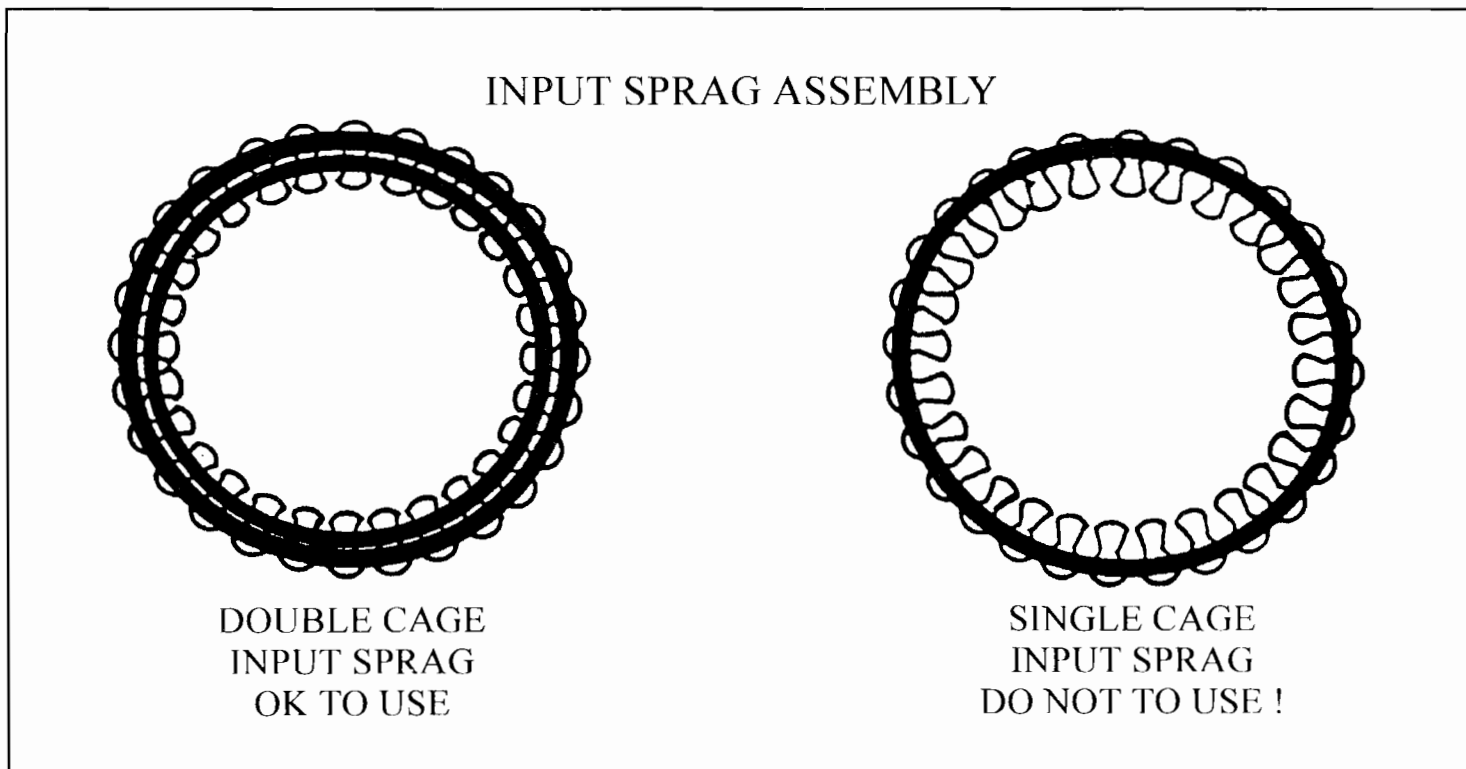

Figure 31
- CORRECTION:** Install an input sprag manufactured by BORG-WARNER. The sprags are easy to identify, as the SKF sprag Does Not use an inner cage and the BORG-WARNER sprag Does use an inner cage, as shown in Figure 31.